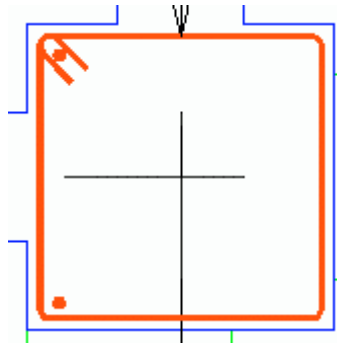

Figure 381: Free distribution of the first bar
4. Create a distribution of two point bars on the top left and the bottom left corners of the rectangular frame on the column section (the Top view – see Figure 381).